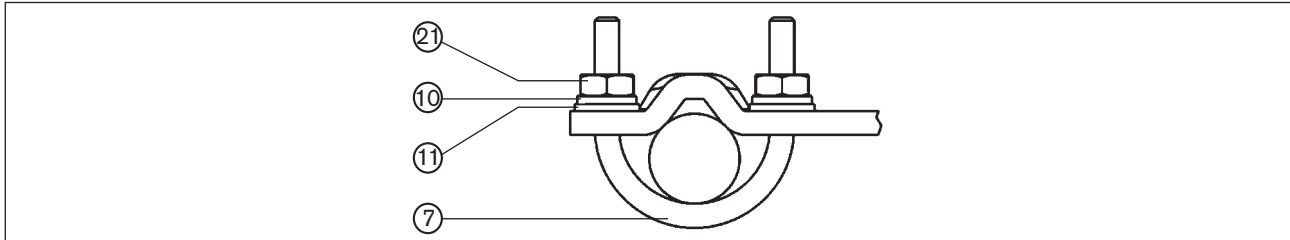

Figure 26: Attach positioner with mounting bracket; for actuators with columnar yoke
→ Attach mounting bracket to the columnar yoke with the U-bolt (7), washers (11), circlips (10) and hexagon nuts (21) (see "Figure 26").